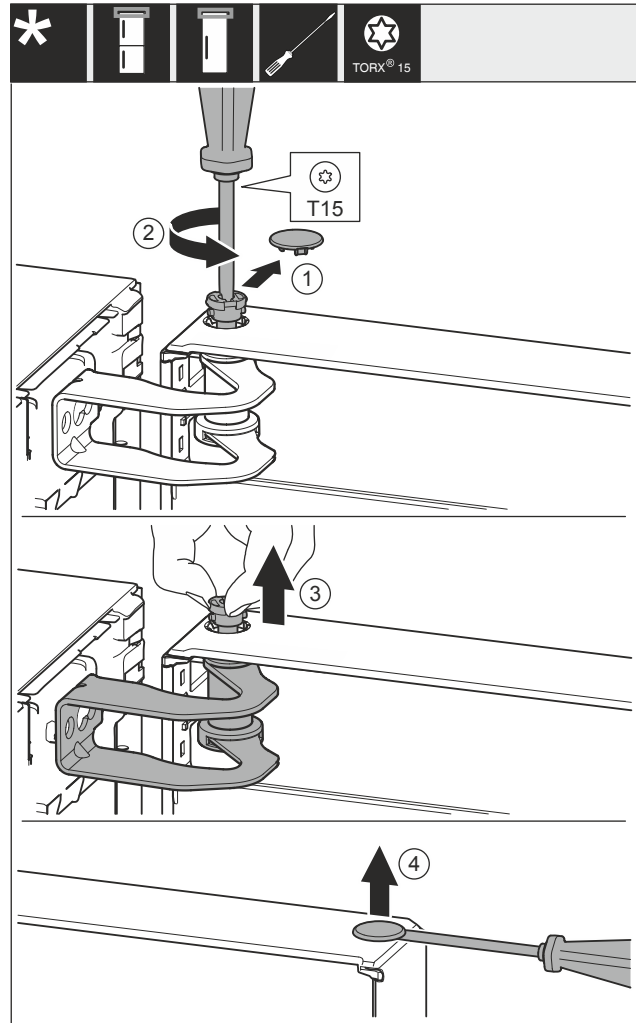

Fig. 13
- ▶ Carefully remove the cover Fig. 13 (1).
- ▶ Use screwdriver to loosen the bolts Fig. 13 (2) a little.
- ▶ Pull out the bolt Fig. 13 (3) with your fingers.
- ▶ Carefully lift and remove the cover Fig. 13 (4) with a screwdriver.